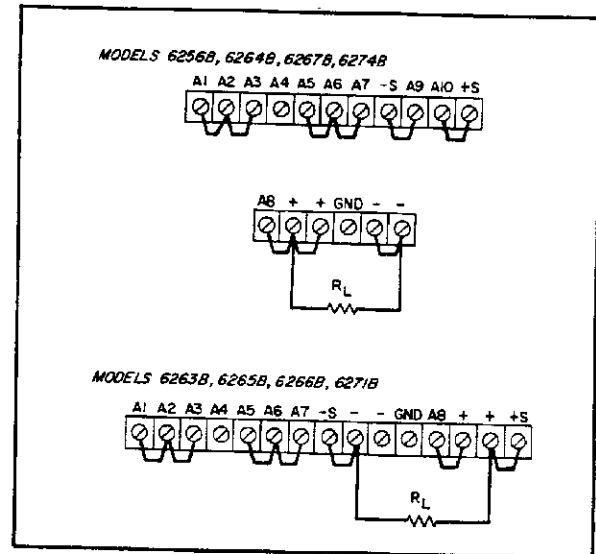
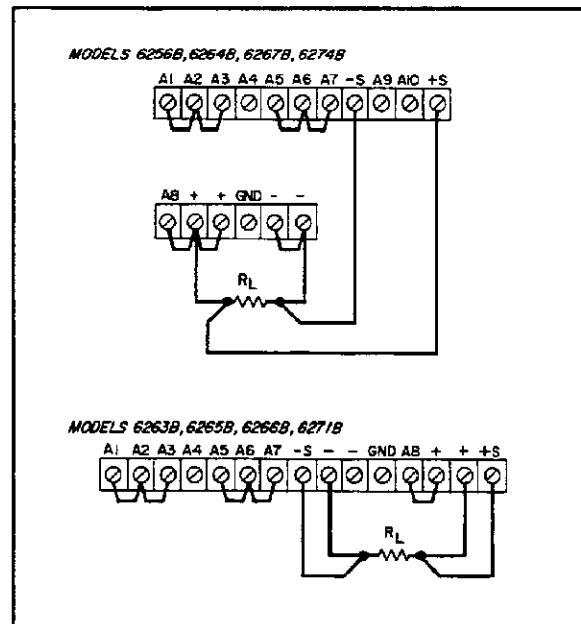

Figure 3-2. Normal Strapping Patterns
Figure 3-3. Remote Sensing
a. Turn CURRENT controls ⑦ and OVERVOLTAGE ADJUST potentiometer ⑤ fully clockwise and check that rear panel straps are connected as shown in Figure 3-2, but do not connect load R_L .
terminals (see Figure 3-2), and turn it back on.
3-7 This power supply was shipped with the proper rear panel strapping connections made for constant-voltage/constant-current operation with local sensing and local programming. This strapping pattern is illustrated in Figure 3-2. By means of the front panel voltage and current controls, the operator selects either a constant-voltage or a constant-current output. Whether the supply functions in the constant-voltage or the constant-current mode depends on the settings of the voltage and current controls and on the resistance of the output load. For values of load resistance greater than a critical crossover value equal to the voltage setting divided by the current setting, the supply
3-26 Because of the unavoidable voltage drop developed in the load leads, the normal strapping pattern shown in Figure 3-2 will not provide the best possible voltage regulation at the load. If, for example, one were to use 8-gauge wire to connect a load that is located only 5 feet from a Model 6256B 10V 20A supply, the regulation measured at the load would be about 120 millivolts as compared to the 1.2 millivolt regulation that could be measured at the supply's output terminals. Thus even relatively short load leads can cause a considerable degradation of the supply's performance. The remote sensing connections shown in Figure 3-3 improve the voltage regulation at the load by monitoring the voltage there instead of at the supply's output terminals. (The advantages of remote sensing apply only during constant voltage operation. This is because in the constant current mode the resistance of the load leads has no adverse effect on a supply's performance.)
3-27 As can be seen in Figure 3-3, remote sensing involves removing the (+S) and (—S) jumpers from the rear panel terminals, connecting the load leads normally, and using a separate pair of wires to connect the (+S) and (—S) sensing terminals to the load. The following paragraphs discuss some precautions that should be observed when making a remote sensing installation.
The (+S) jumper is the one that links the (+S) terminal to the (+OUT) or (A10) terminal when the supply's terminals are strapped for normal operation as shown in Figure 3-2. The (—S) jumper is the one that links the (—S) terminal to the (—OUT) or (A9) terminal.